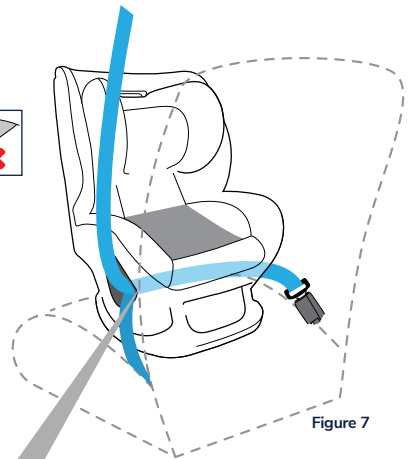

Figure 7
Step 1. Fully lengthen the seatbelt and thread through the blue rearward facing belt path opening at the side of the seat (Figure 7).